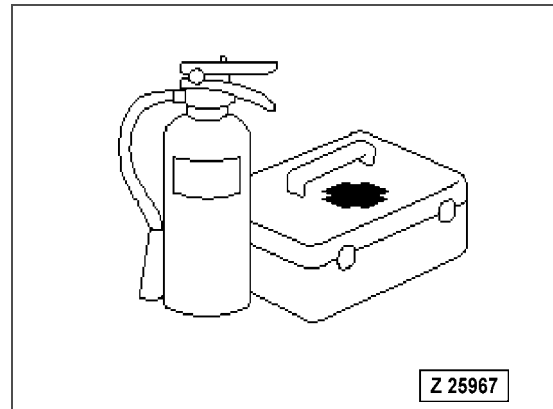

Fig. 3-4
- Provide a first aid kit. Carry out periodic checks and add to the contents if necessary (Fig. 3-4).